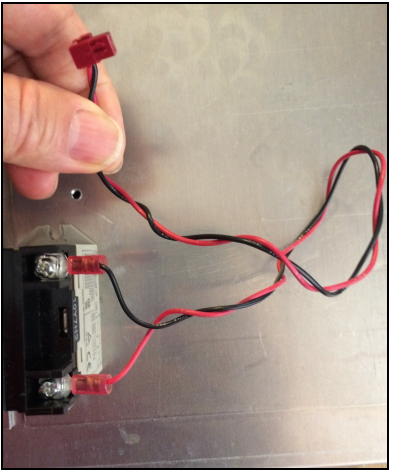
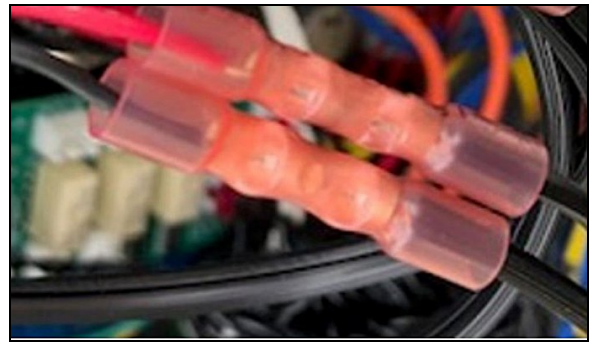

Figure 5
Figure 6
7. If the control connectors that were removed in step 4 appear as shown in Figure 5, connect them to the new wire at the heat pump control panel using butt connectors. See Figure 6.
8. If the control wire connectors are different then shown in Figure 5, then purchase new connectors as specified in required parts list and use as shown in 1.